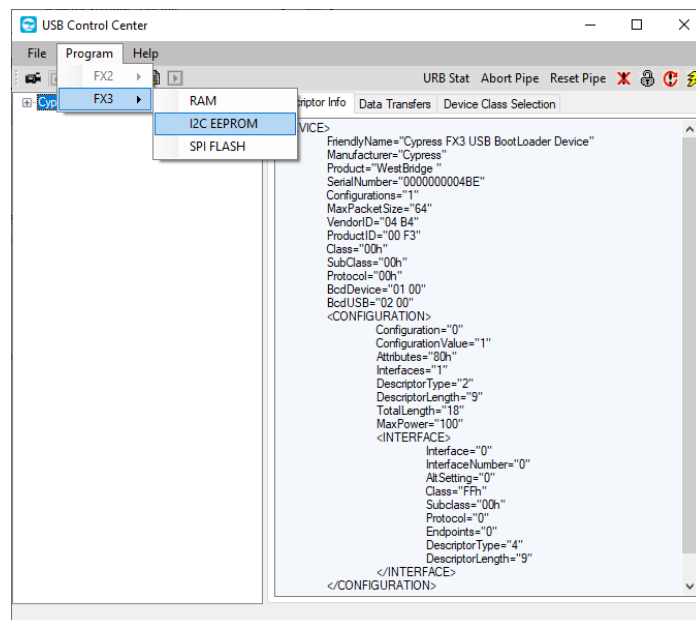

Figure 4.2. Selecting FX3 I²C EEPROM in USB Control Centre
3. Press the SW2 button to reset the FX3 chip. Figure 4.2 shows the boot loader device screen.